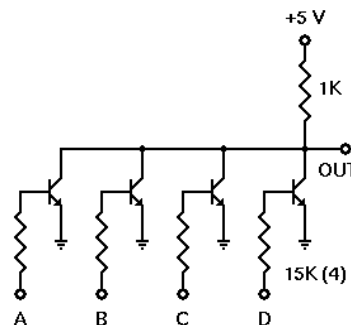

Fig 2.3: 4-input RTL Inverter
3. Repeat steps 1 and 2 for each circuit set-up from Fig.2.3 to Fig. 2.6.